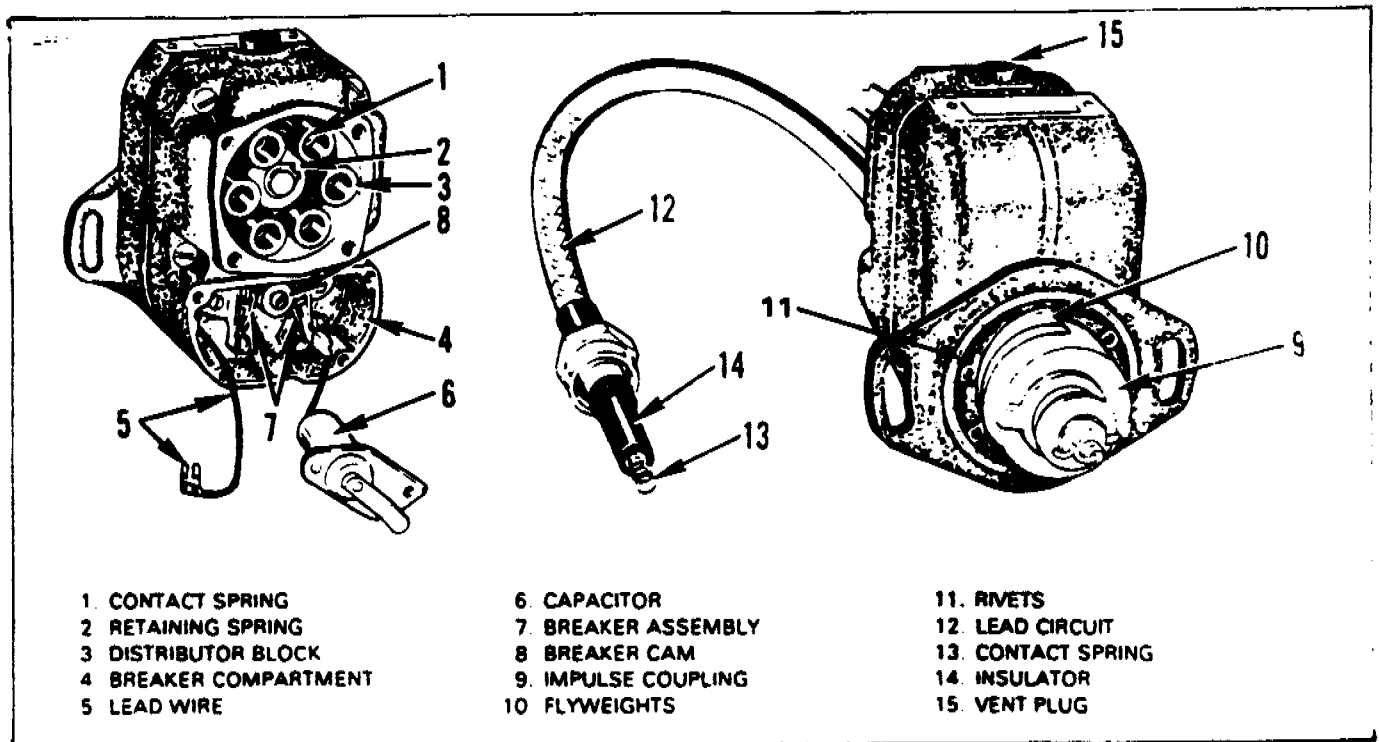

Figure 7A-14. Magneto Inspection
5. Look for frayed insulation or broken wire strands in leads in back of magneto. See that terminals are secure. Be sure wires are properly positioned. The position of the leads in the 200 series breaker compartment must be as shown in Figure 7A-15, otherwise, chafing or breaking may result.